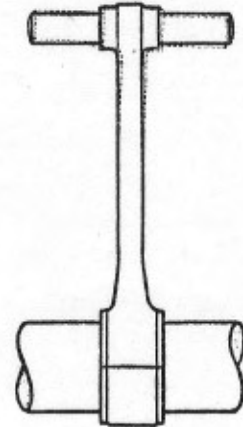

Fig. 3.
- a) Horizontal Alignment: (See fig.3).